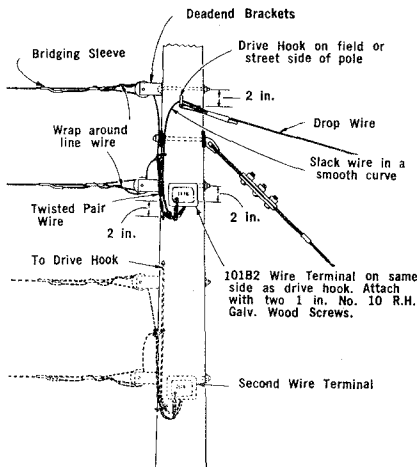

Fig. 9 — Where Lines Are Terminated on Deadend Brackets Attached to Face or Back of a Pole
4.15 Poles Equipped with Deadend Brackets (Fig. 9)